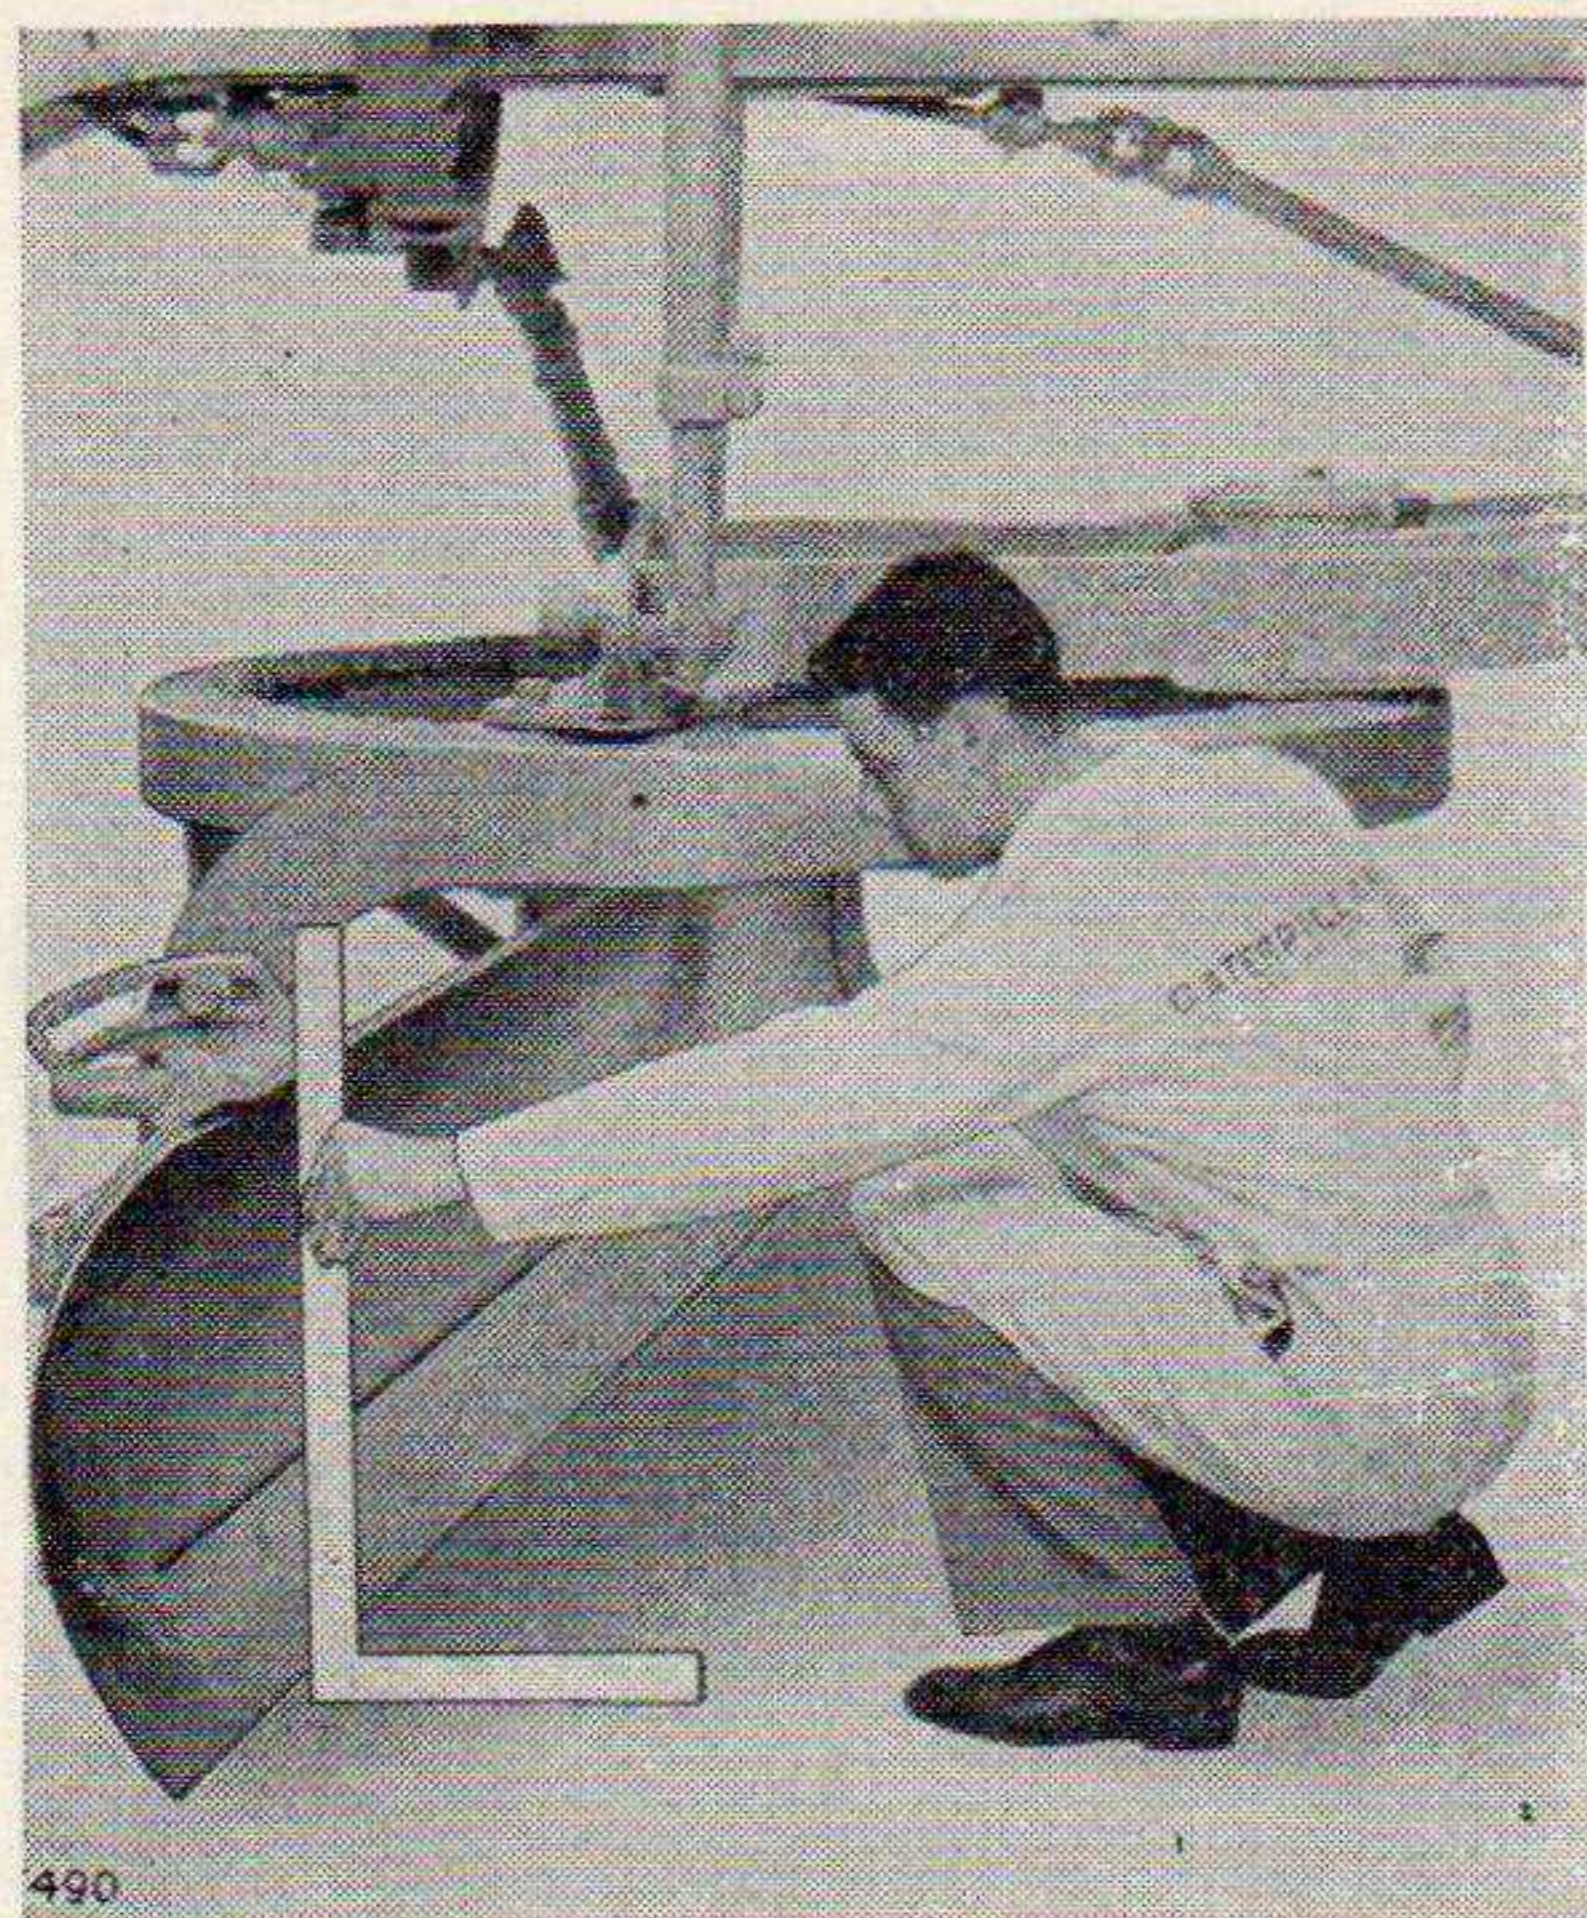
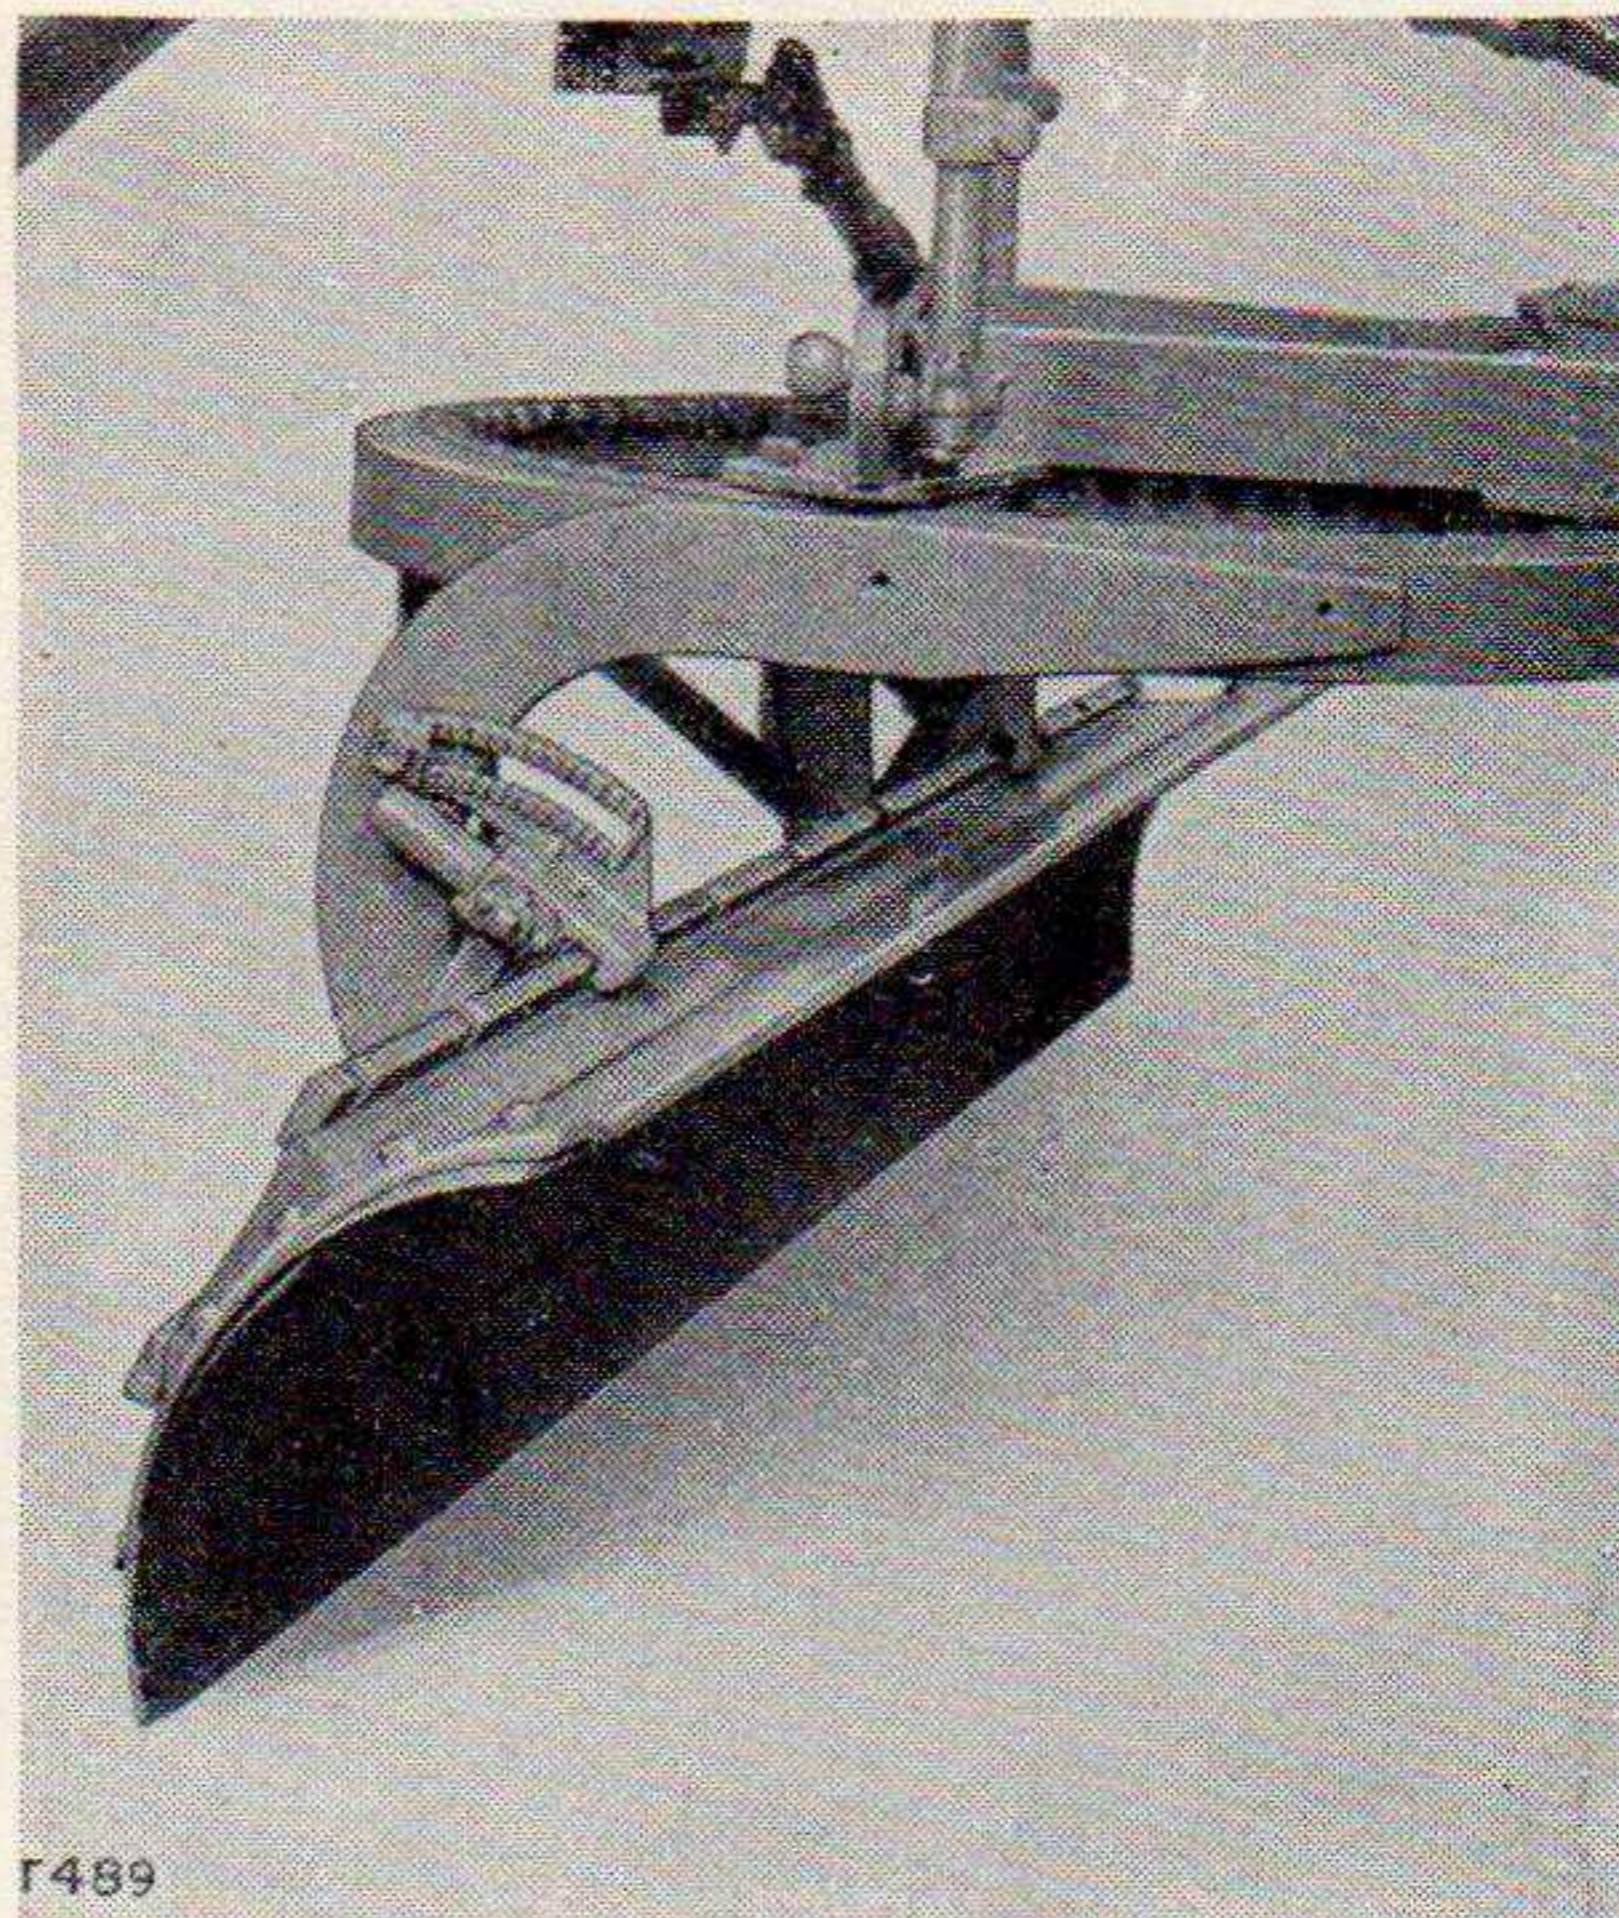

Figure 30. Blade pitch for cutting.
Figure 31. Blade pitch for dragging.
(1) *General.* For more efficient operation the blade pitch must be different for cutting and dragging. For cutting, tilt the blade back until the top and bottom blade edges are on a line approximately perpendicular to the ground. (See fig. 30.) For dragging tilt the blade forward until the cutting edge is approximately perpendicular with the ground. (See fig. 31.)